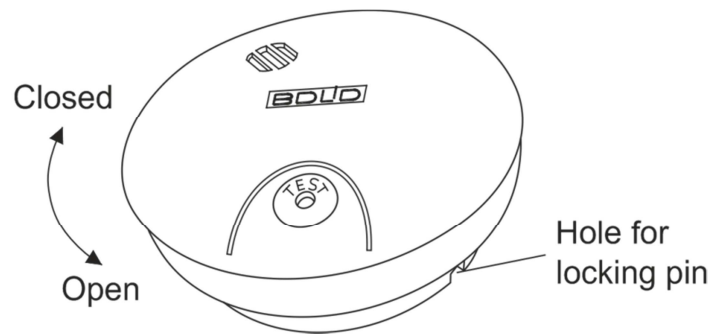
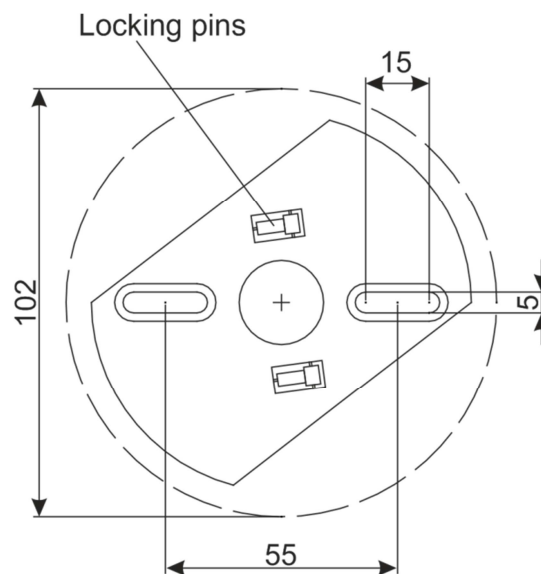

Figure 1
Figure 2
Figure 1 shows the alarm appearance while Figure 2 represents mounting dimensions of this one.
2.2.3.2 The alarm is to be mounted on the surface of bearing structures via its mounting plate, which is to be secured to the surface in accordance with the mounting template given in Figure 2.
2.2.3.4 The alarm design provides protecting against unauthorized removing from the mount plate. For doing so, one should knock one locking pin out of the mount plate (see Figure 2) and insert it into the hole specified in Figure 1.